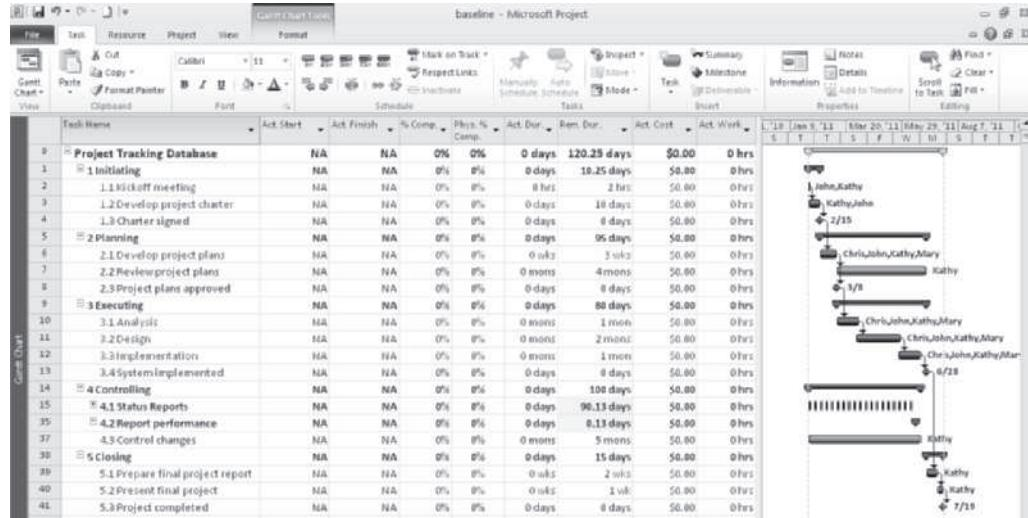

FIGURE A-49 Tracking table
2. *Display the Tracking table.* Right-click the Select All button, and then click Tracking to see more tracking-related information as you enter actual data. Widen the Task Name column to see all of the text, and then move the split bar to reveal all the columns in the Tracking table. Make other adjustments as needed so your screen resembles Figure A-49.